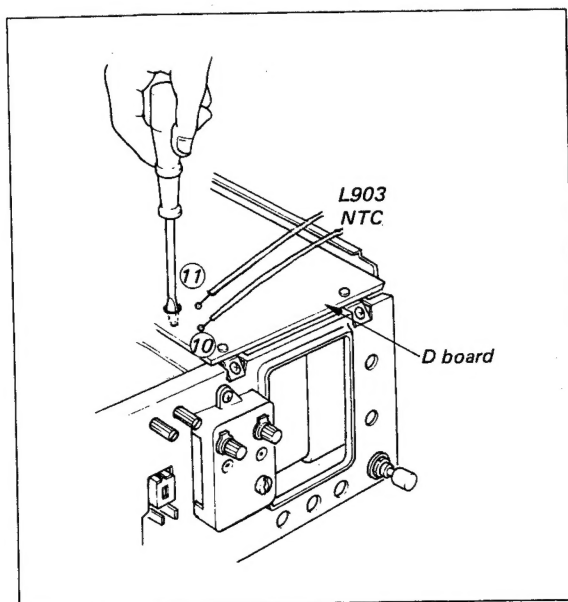
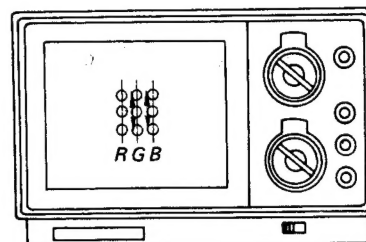

Fig. 3-12. V.STAT VR adjustment
Fig. 3-13. Dots movement
- (1) Adjust VR504 (V.STAT) to converge the dots vertically as shown in Fig. 3-12 and in Fig. 3-13. If this does not correct the convergence, proceed the following.
If correct convergence cannot be obtained, reverse the lead wire connection at the terminal ⑩ and ⑪ as shown in Fig. 3-12, then readjust VR504.